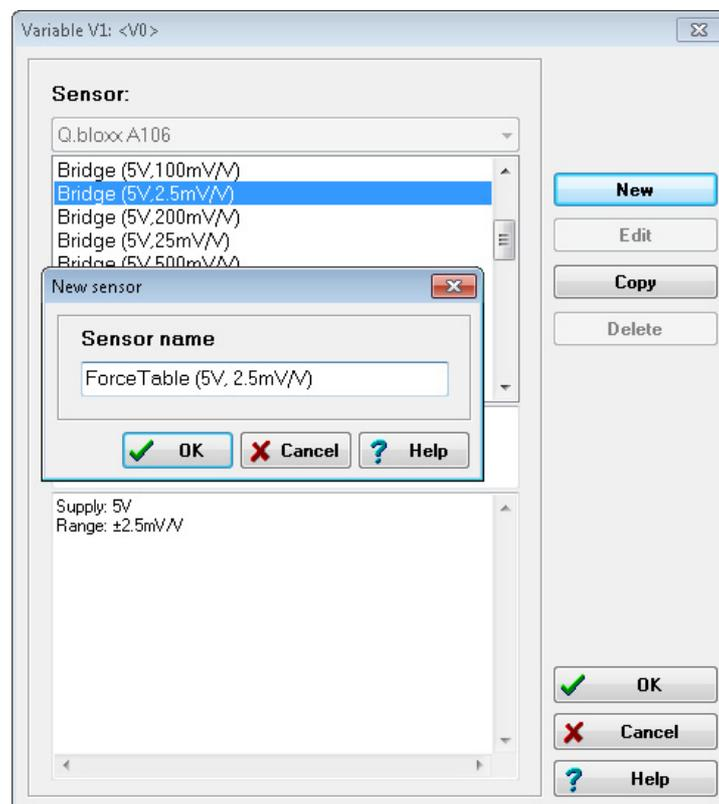

Fig. 6-7 Creating a new sensor for scaling.
3. Copy the sensor (click on **Copy**) and specify a name, e.g. **ForceTable** (Fig. 6-7). If the scaling to be entered later only applies to this sensor, you should use the sensor type and the serial number as the name, e.g. **C2 #1234 (5V)**.